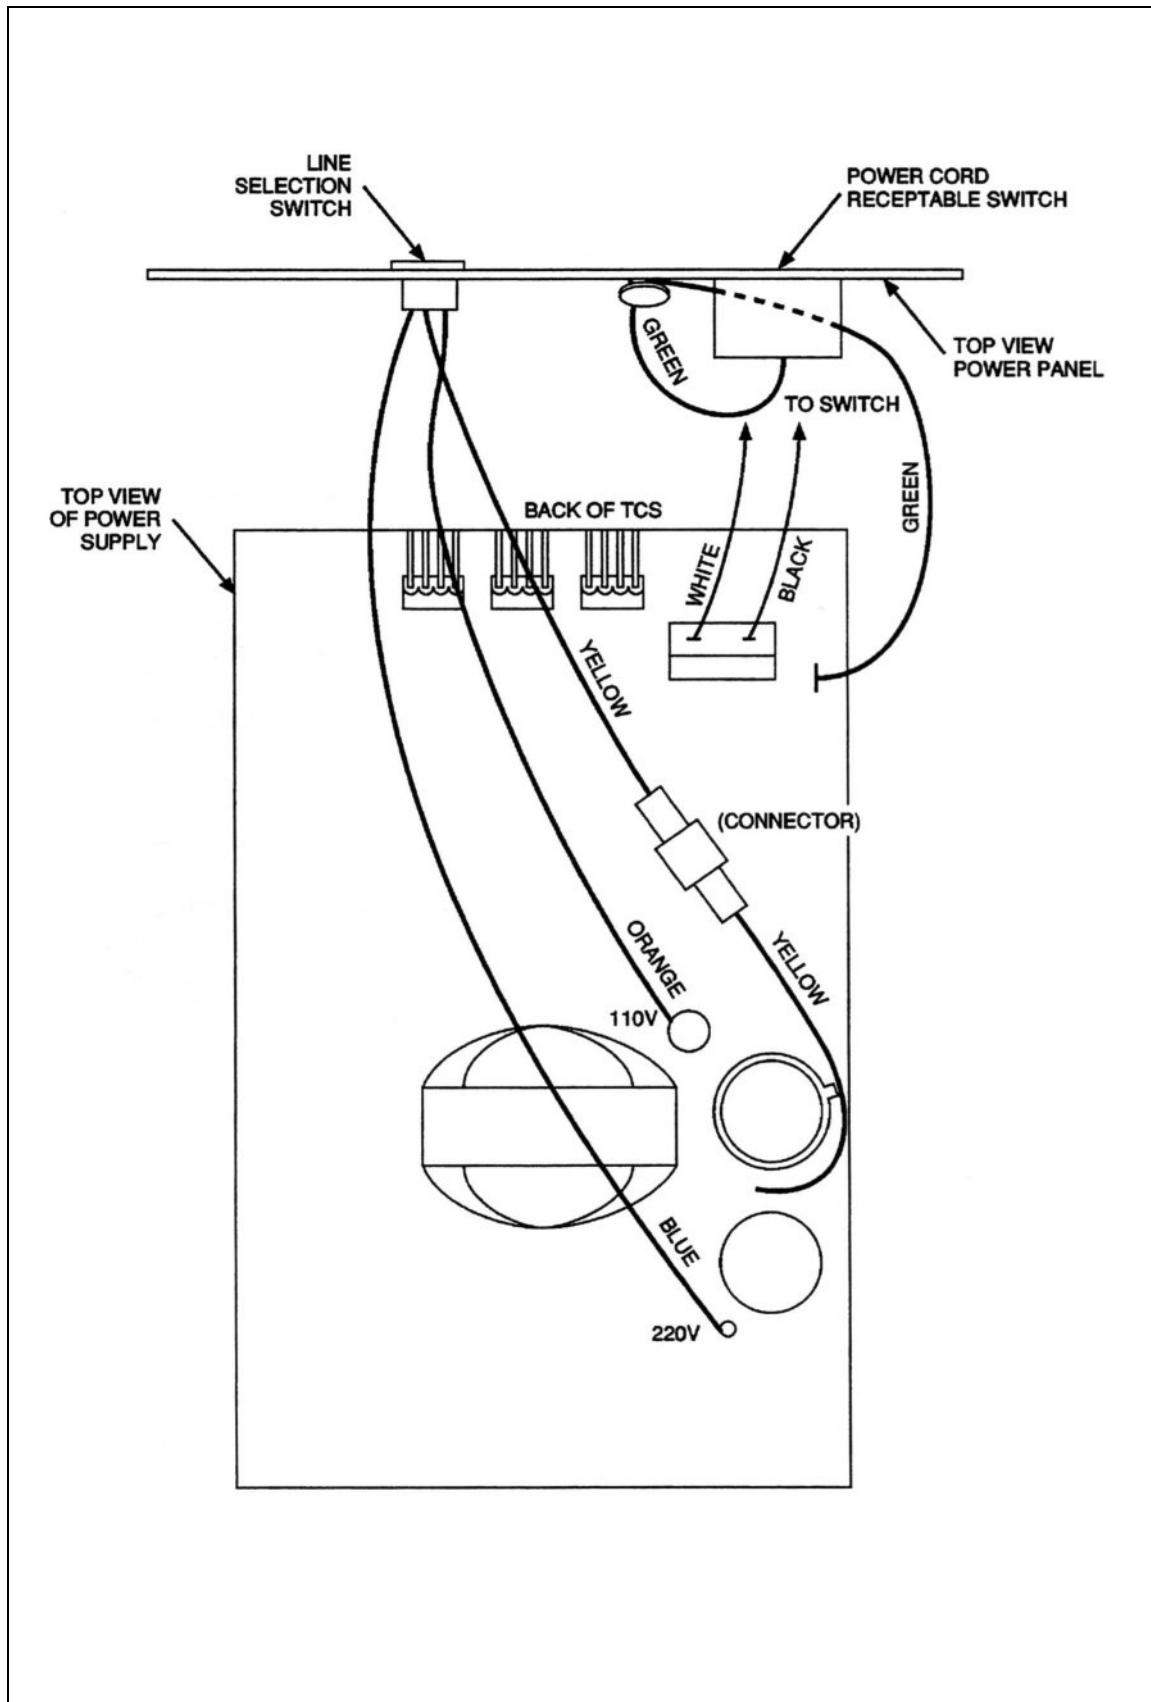

Figure 4-5. Power Supply Lead Connections
4. Disconnect the six wires that connect the power panel to the power supply. Refer to Figure 4-5 for wire locations.
6. Connect the power leads and ground. Refer to Figure 4-5 for wire connections.
2. Use a Phillips screwdriver to remove the two screws on the power panel. Disconnect the six wires that connect the power panel to the power supply. Refer to Figure 4-5 for wire locations. Remove the power panel.
9. Reconnect the six wires that connect the power panel to the power supply. Refer to Figure 4-5 for wire locations. Replace the power panel.
4. Disconnect the six wires that connect the power panel to the power supply. Refer to Figure 4-5 for wire locations. Lift off the power panel.